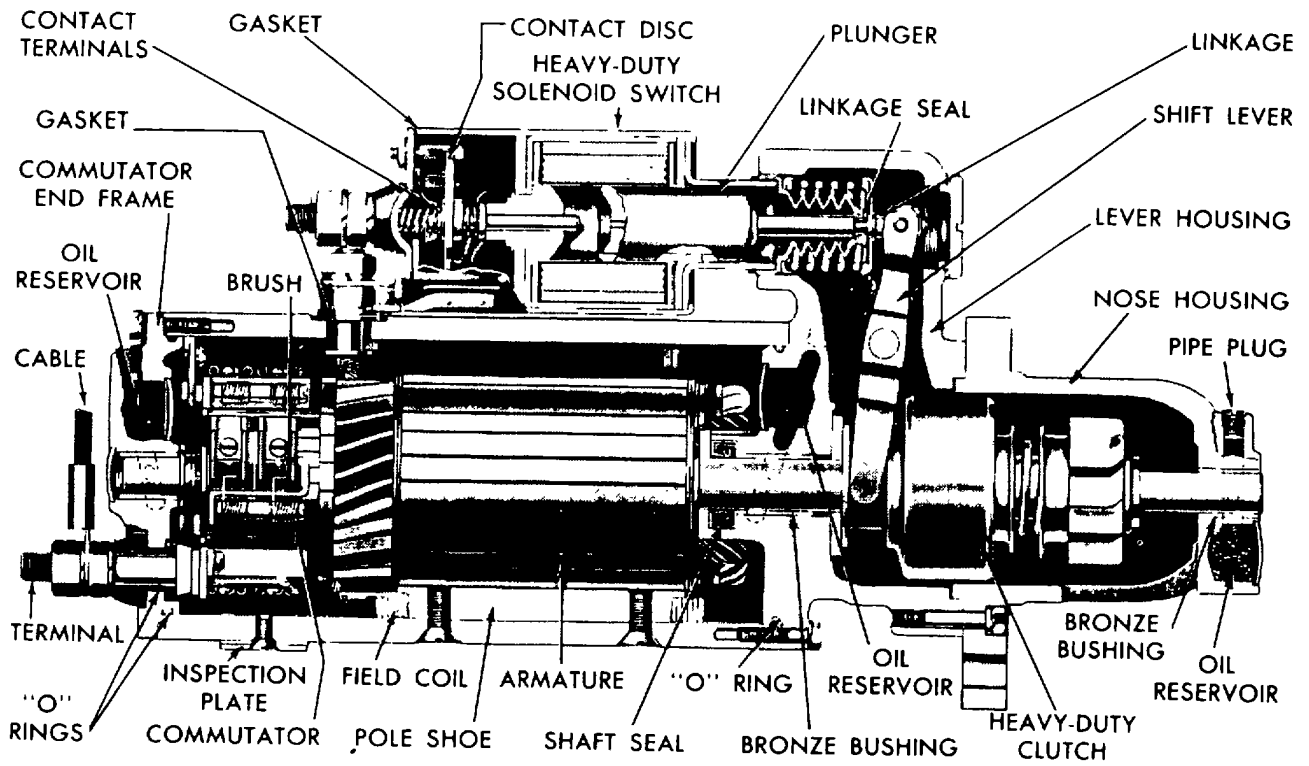

Figure 5-8. Starting Motor
- a. The starting motor is a heavy duty, 12 volt, submersion, fungus and corrosion resistant, solenoid operated, enclosed shift type engine starter with eight (or four) brushes retained by four brush holders. Figure 5-8 is a typical unit used on this winch; minor variations such as the number of brushes may be noticed on disassembly.